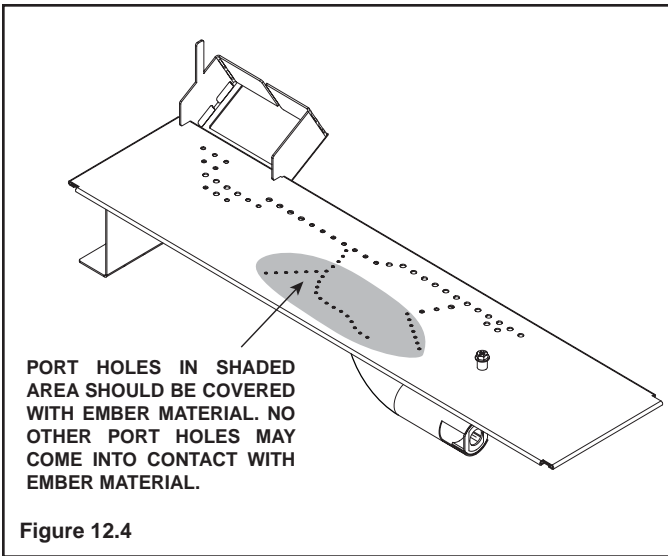

Figure 12.4
- Embers **CANNOT** be placed directly over ports. See Figure 12.4 for the only exception to this guideline. Care should be taken not to cover the lighting trail of ports (from back to front).